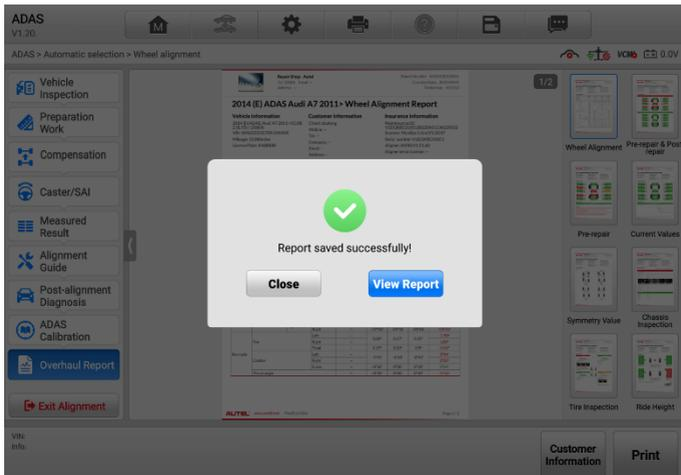

Figure 4-72 Save Report Screen 3
- 1) Tap **View Report** (see Figure 4-72 Save Report Screen 3) after saving the report successfully, or tap **Report** from **Data Manager** to enter Report List screen.